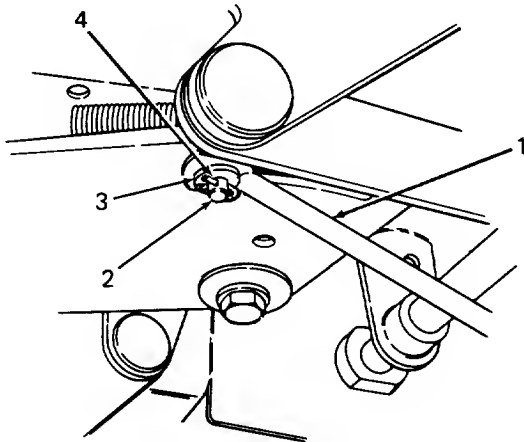

Figure 52
8. Place the brake rod on the clutch rod. Secure with a flat washer and hairpin cotter. (Refer to Figure 52.)